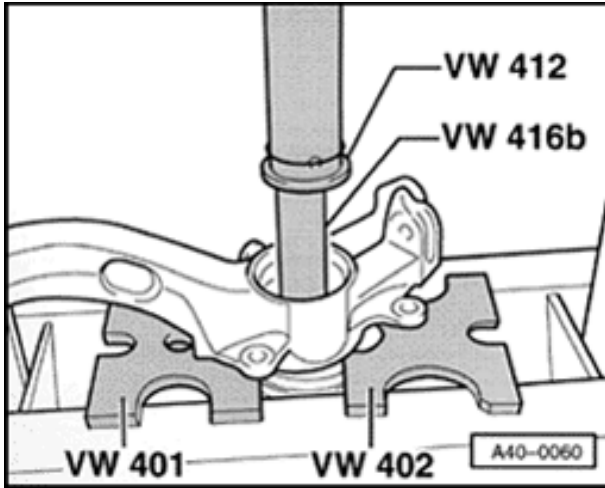

Fig. 1 Pressing wheel hub out of wheel bearing housing with 75 mm diameter
- ◆ Pressing out 75 mm dia. ⇒ Fig. 1